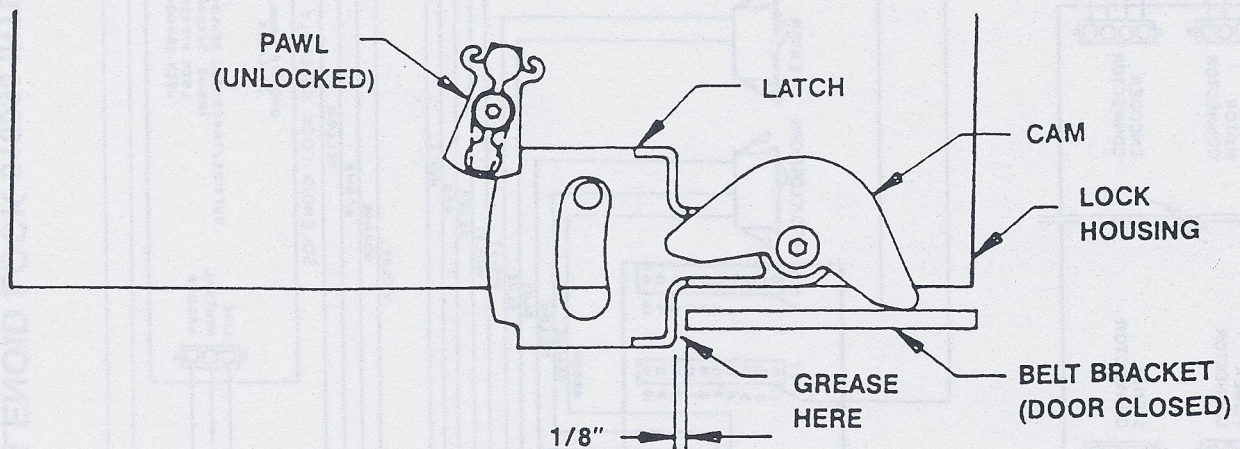

FIGURE 6.2 — "DOOR CLOSED & UNLOCKED"
- 2.9 With the door fully closed, move the lock to the position shown in **Figure 6.2** (within approximately 1/8" of the belt bracket) and tighten the lock mounting bolts.
- 3.9 With the door fully closed, move the lock to the position shown in **Figure 6.2** (within approximately 1/8" of the belt bracket) and tighten the lock mounting bolts.
- 5.8 With the door fully closed, move the lock to the position shown in **Figure 6.2** and tighten the lock mounting bolts.